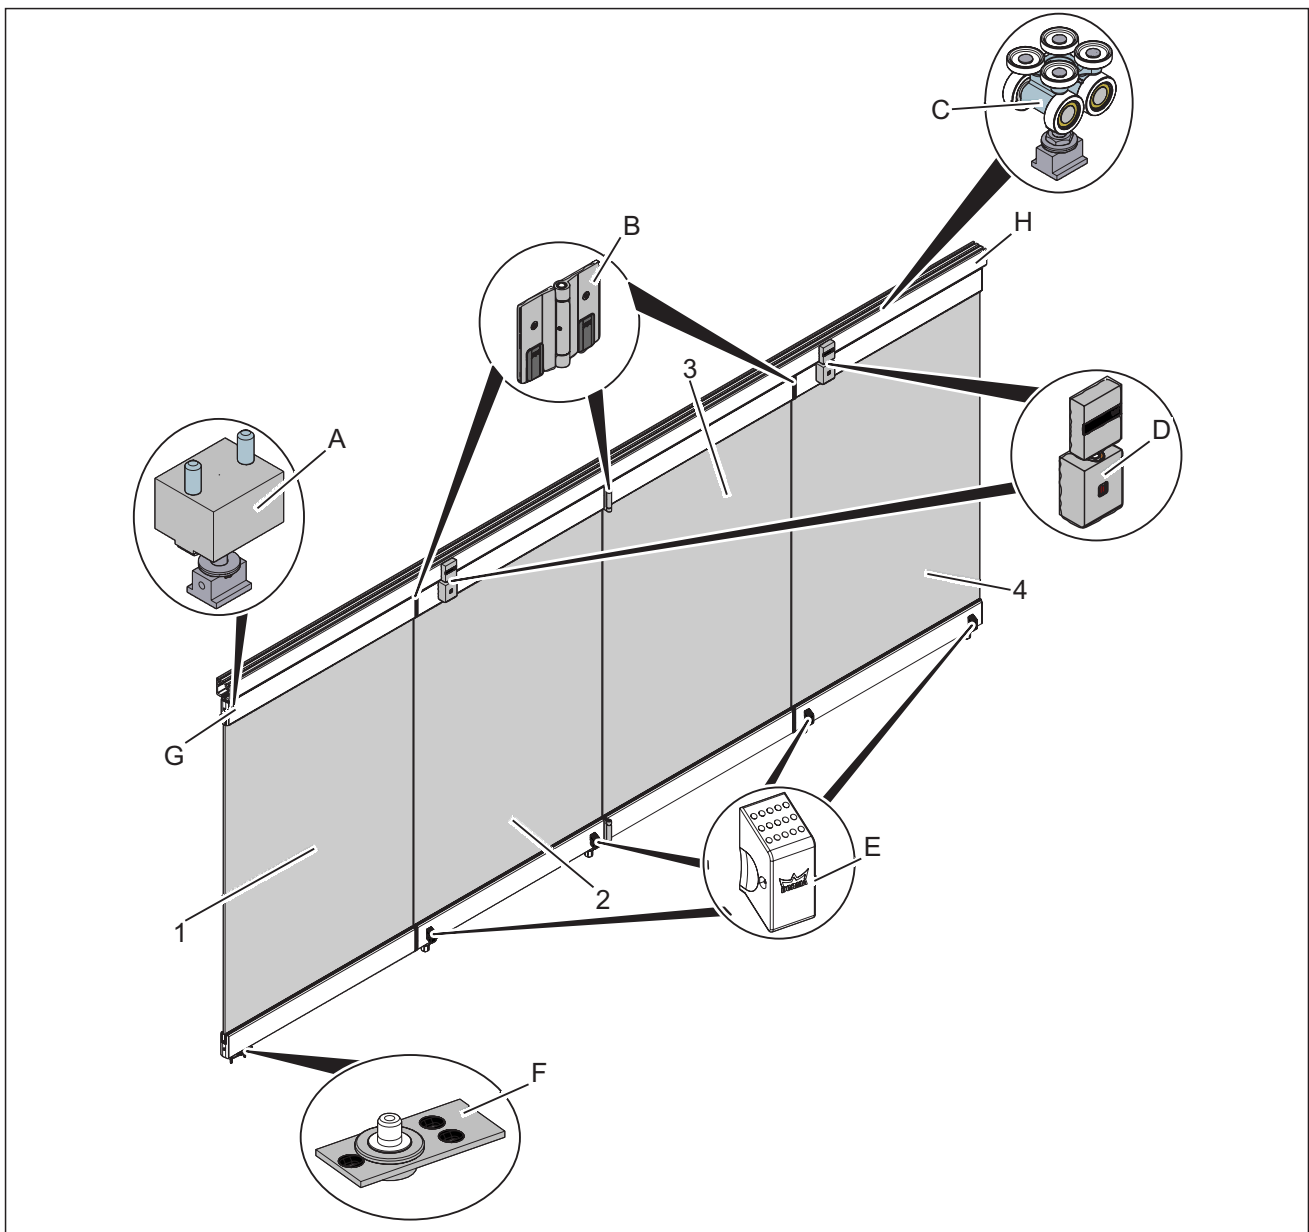
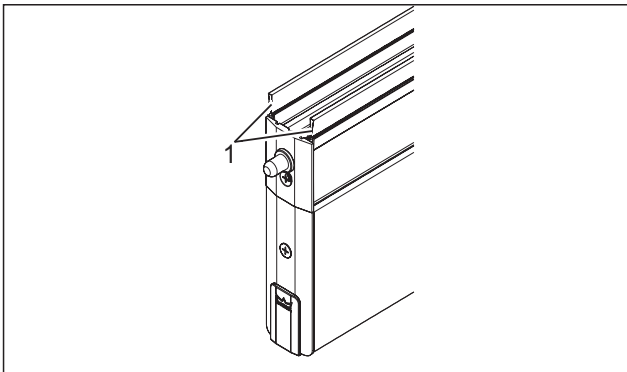

Fig. 1 Folding sliding wall overview (sample model)
Fig. 2 Brush seals
- Base panel (Fig. 1/1)
- Folding panel (Fig. 1/2 – 4)
- Folding panel (Fig. 1/2)
- Final folding base panel (Fig. 1/3)
- Final folding panel (Fig. 1/4)
- Upper pivot bearing (Fig. 1/A)
- Folding hinge (Fig. 1/B)
- Track roller (Fig. 1/C)
- Upper slide bolt (Fig. 1/D)
- Face-mounted slide bolt (Fig. 1/E)
- Floor pivot (Fig. 1/F)
- Door rail (Fig. 1/G)
- Track rail (Fig. 1/H)
The FSW EASY Safe and FSW EASY Safe-C/-C-Plus folding sliding walls (Fig. 1) are suitable for indoor use. The FSW EASY Safe consists of a base panel and folding panels. A separate swing panel can optionally be installed on the opposite of stacked panels.
The panels (Fig. 1/1 – 4) are mounted in the track rail (Fig. 1/H). Folding panels are opened in pairs. Depending on the system type, the folding sliding wall can be opened in one or both directions.
The base panel (Fig. 1/1) is the first panel in the system and is fixed. It cannot be moved. In the FSW EASY Safe-C/-C-Plus variant, it is half as wide (half panel width + 65 mm pivot) as the other panels. The opened folding panels are furthermore coupled with magnets in the FSW EASY Safe-C/-C-Plus variant. The optionally available swing panel is not connected to the folding panels. The swing panel is firmly fixed and cannot be moved.
The folding panels are connected to hinges (Fig. 1/B). Brush seals (Fig. 2/1) close the gap between the door rail and the track rail mounted above it.